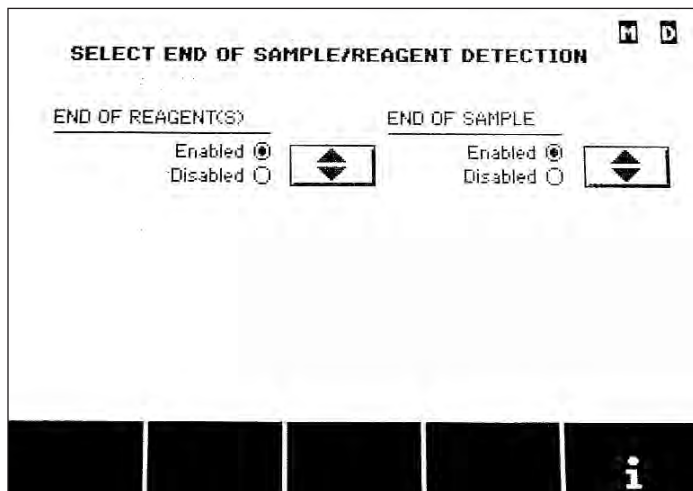

Fig. 9.18. Select End of Sample/Reagent Detection screen.
3. On the Diag/Maint Functions screen, use the up and down arrows to scroll through the list of functions and highlight "Select Method Temperature", then touch the Select button. The Select Method Temperature screen will display (Figure 9.18).